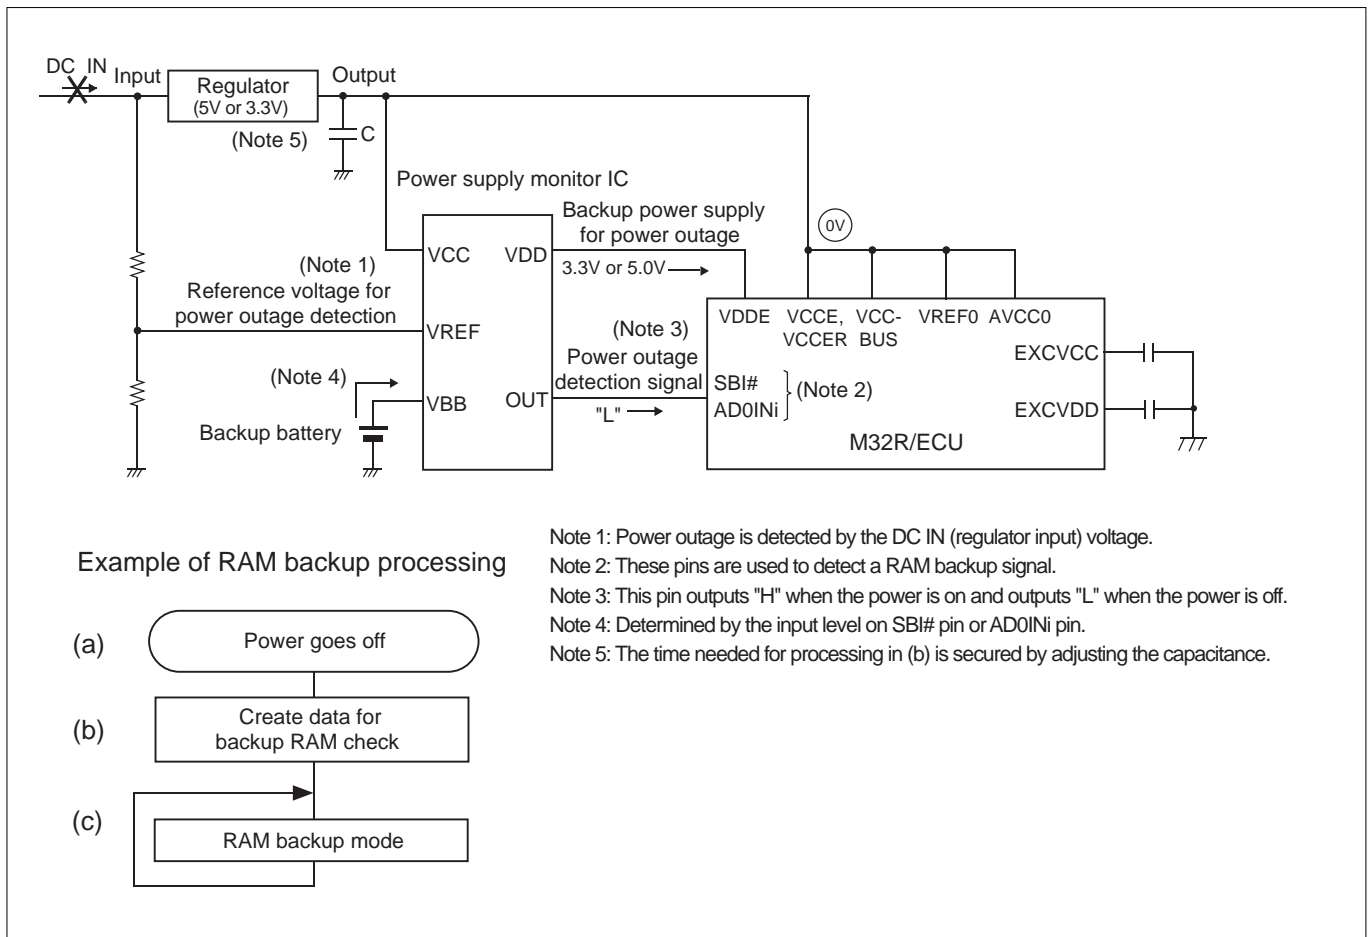

Figure 19.2.3 Power Outage RAM Backup State
Figure 19.2.3 shows the power outage RAM backup state of the M32R/ECU. When the power supply goes off, the power supply monitor IC starts feeding current from the backup battery to the M32R/ECU. Also, the power supply monitor IC's power outage detection pin outputs "L," causing the SBI# pin or AD0INi pin to go "L," which generates a RAM backup signal ((a) in Figure 19.2.3). Determination of whether the power is off must be made with respect to the DC IN (regulator input) voltage in order to allow for a software processing time at power outage.
- (1) Create data for RAM check to verify whether the RAM data has been retained normally after returning from RAM backup mode to normal mode ((b) in Figure 19.2.3).
If the power supply to VCCE goes off after making above setting, the VDDE pin voltage goes to 3.0–3.3 V and all other pin voltages drop to 0 V, and the M32R/ECU is thereby placed in RAM backup mode ((c) in Figure 19.2.3).